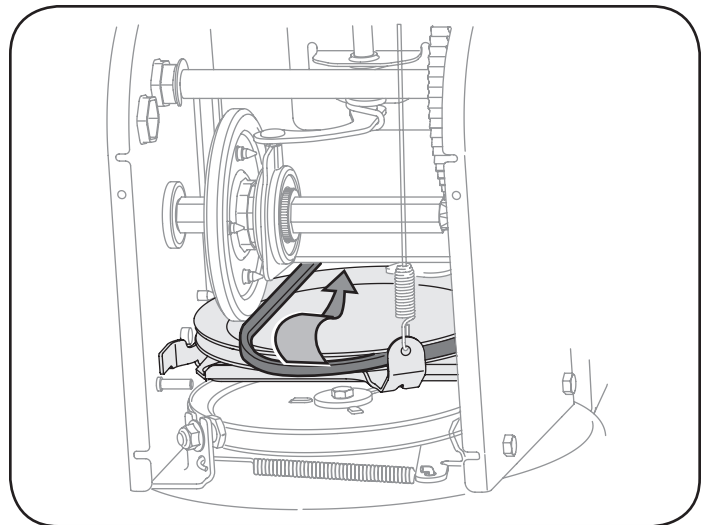

Figure 26
6. Slip the drive belt off the pulley and between friction wheel and friction wheel disc. See Figure 26.